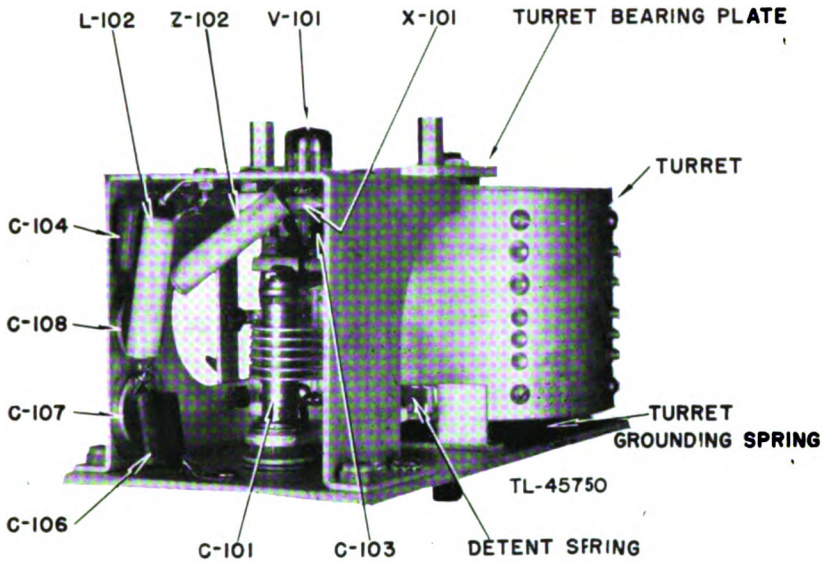

Figure 9. R-f oscillator, side view.
**a. Internal Audio Oscillator (400 and 1,000 cycle).** (1) The percentage modulation for 400 cycles is controlled by R-128, and the percentage modulation for 1,000 cycles is controlled by R-129 (fig. 9). Varying the 400-cycle voltage will have some effect on 1,000-cycle voltage; therefore, always adjust the 400 cycles first. These controls vary the a-f volts.